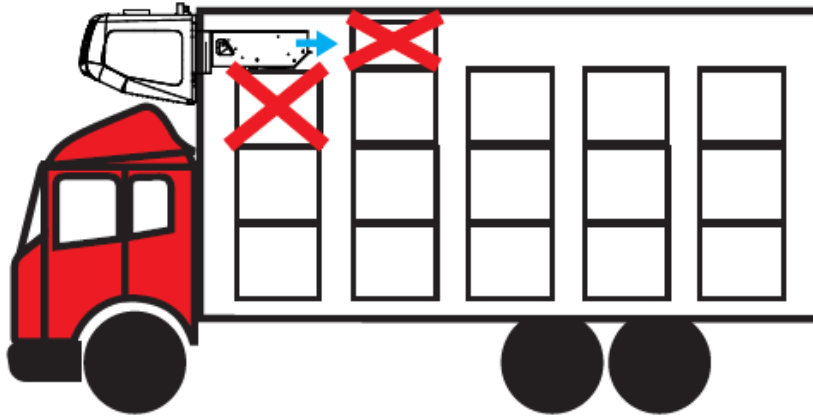

Figure 4 - Covered suction and ventilation ducts
- Promote air circulation without obstructing the air suction and air supply openings (Figure 4).